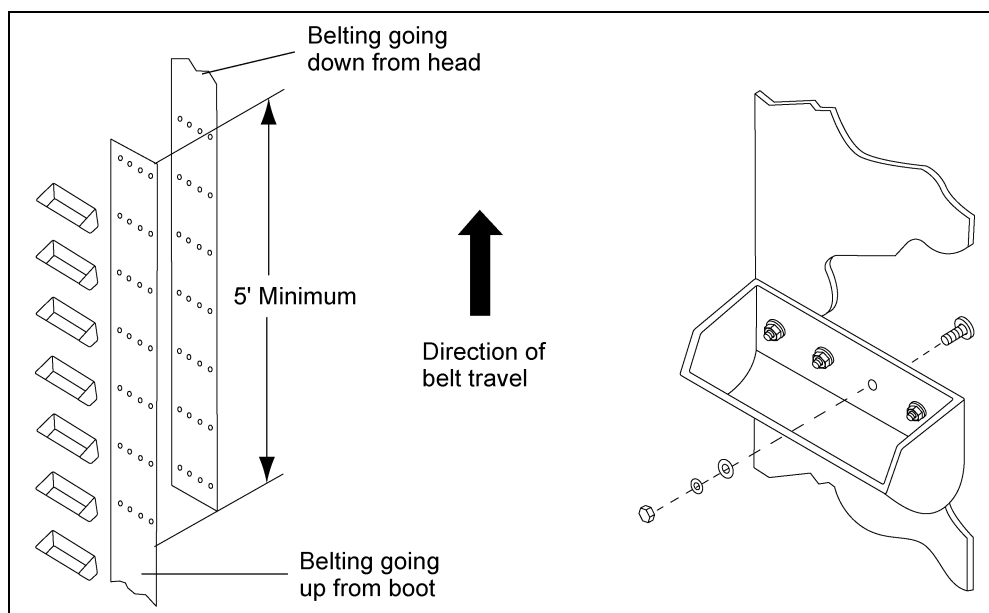

Figure 10A *Belt Splicing*
1. When overlap splicing, draw a 5' minimum of the belt coming up from the bottom of the boot over belt hanging down from head. *(See Figure 10A.)*
(See Figure 10A on Page 28.)